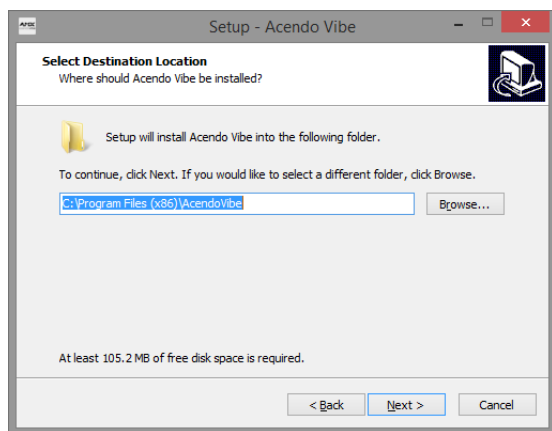

FIG. 21 Acendo Vibe Setup Wizard - Select Destination Location dialog
- c. Select a destination folder for this installation (or leave the default folder setting) and click **Next** to proceed (FIG. 21):